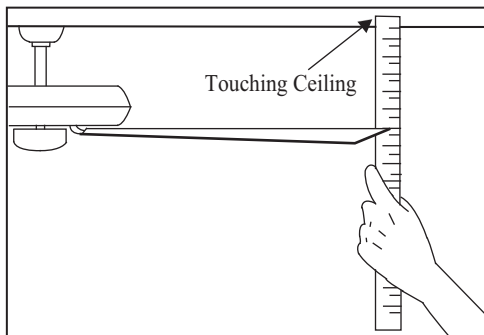

Figure 12
2. Most fan wobble problems are caused when blade levels are unequal. Check this level by selecting a point on the ceiling above the tip of one of the blades. Measure from a point on the center of each blade to the point on the ceiling. Measure this distance as shown in Figure 12. Rotate the fan until the next blade is positioned for measurement. Repeat for each blade. Measurements deviation should be within $1/8"$. Run the fan for 10 Minutes.